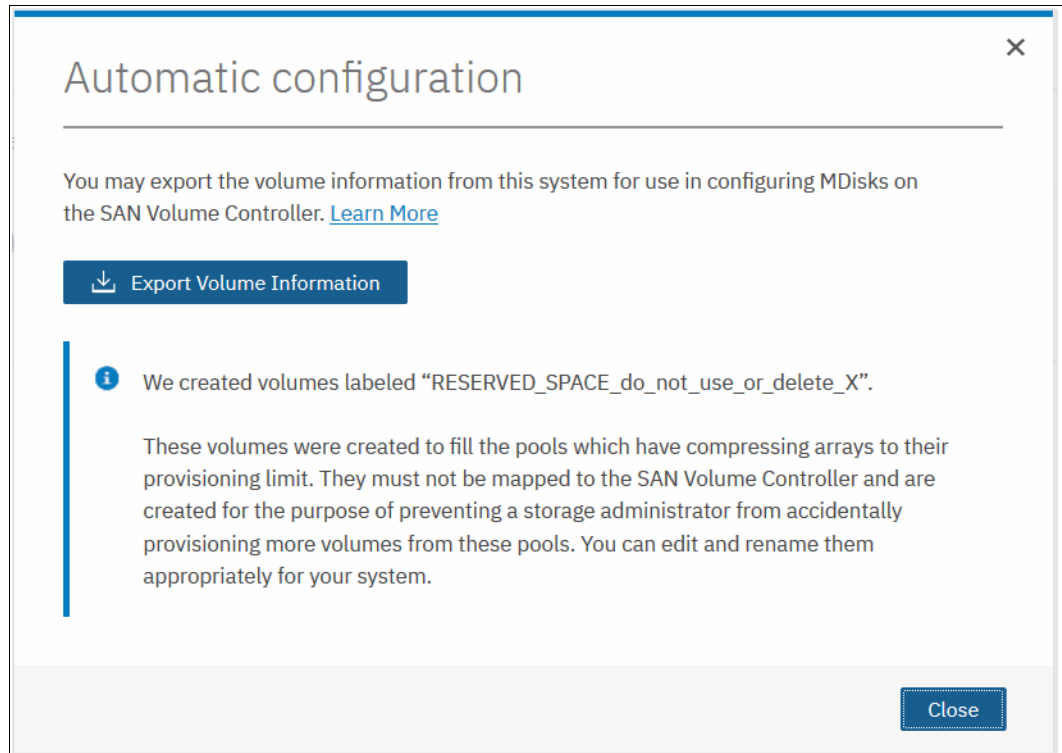

Figure 3-49 Automatic configuration complete
- When the Automatic Configuration for Virtualization wizard completes, you see the window that is shown in Figure 3-49. After clicking **Close**, you may proceed to the SVC GUI and configure a new provisioned storage.